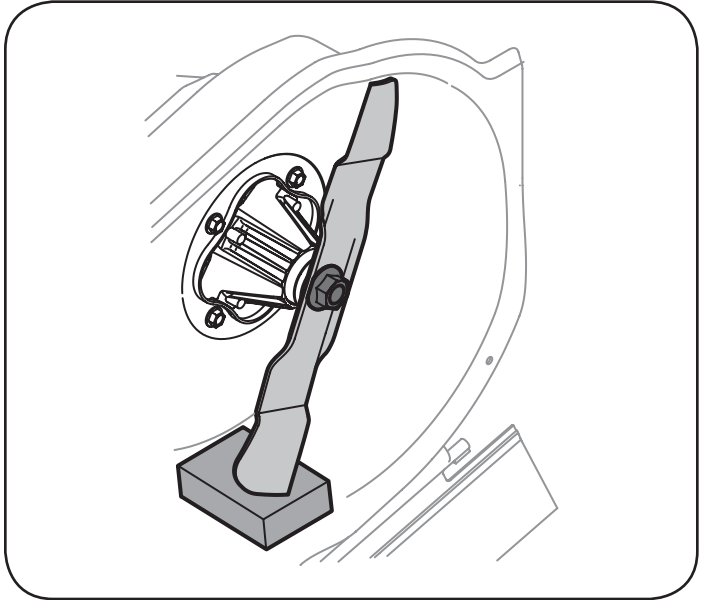

Figure 15
3. Place a block of wood between the center deck housing baffle and the cutting blade to prevent the blade from turning when loosening the blade's hex flange nut. See Figure 15.